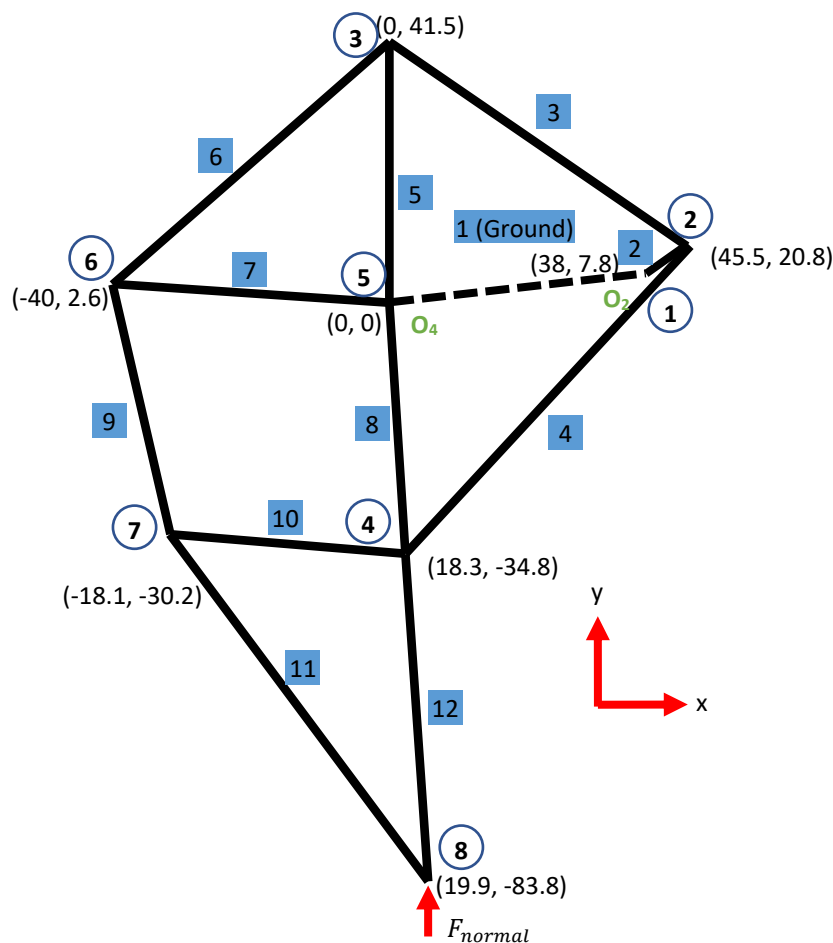

Figure 4. x-y coordinates of nodes
- Figure 4 shows the location of each joint and numbered links. In the code, joint locations are typically provided in millimeters, but your final product should give the position, velocity, and acceleration in the standard SI units of m, m/s, and m/s². Check your unit conversions.